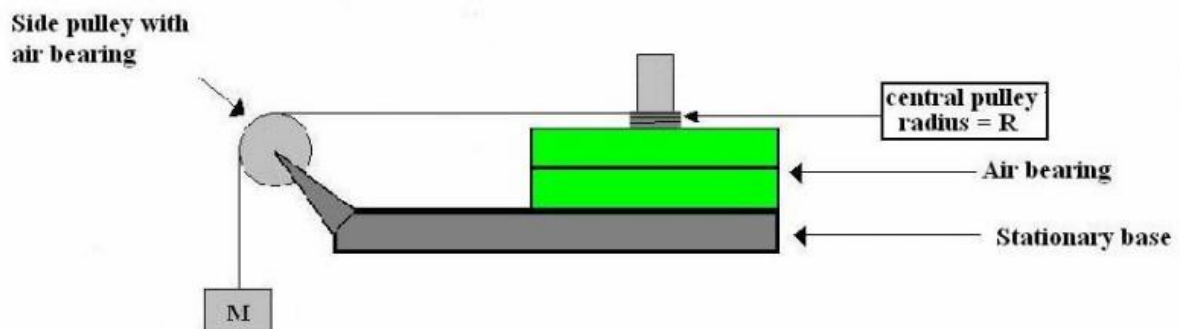

Figure 1
The experimental apparatus is shown in Figure 1 below. A light string (negligible mass) is wound around a central pulley of radius R , it passes over a side pulley and is attached to a mass M .
Compressed air is supplied to the apparatus making the rotating central pulley and the disk to which it is attached (shown in green in figure 1) rotate with very little frictional losses. The side pulley also is supplied with compressed air to minimize frictional losses.
The rotating disk (shown in green in Figure 1) has alternating black and white bars on its circumference which are detected by a photo-diode detector as they sweep past it.
If the hanging mass M in Figure 1 is released from rest and allowed to fall a distance h to the ground, it will have an acceleration equal in magnitude to the tangential linear acceleration of the string that is wound around the central pulley of the apparatus. This acceleration is given
1. Turn on the air supply to the rotational apparatus and make sure the string passes over the side pulley as shown in Figure 1 and that the string is taught with the hanging mass M just barely touching the floor. The 0 cm end of the meter stick should be paced on the floor ($y_i = 0.0\text{cm}$).
3. Use equation (2) and Excel to calculate the radius of the central pulley R.